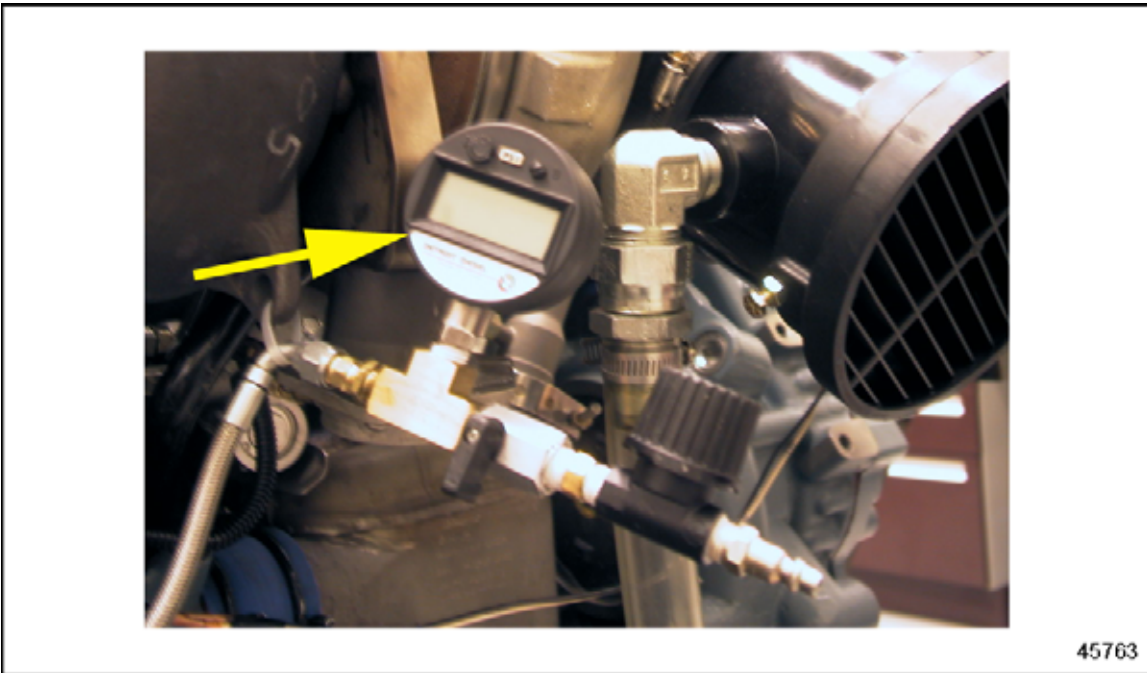

Figure 10-2 Gage Setup
2. Install gage at the outlet of the VNT air line. See Figure 10-2.